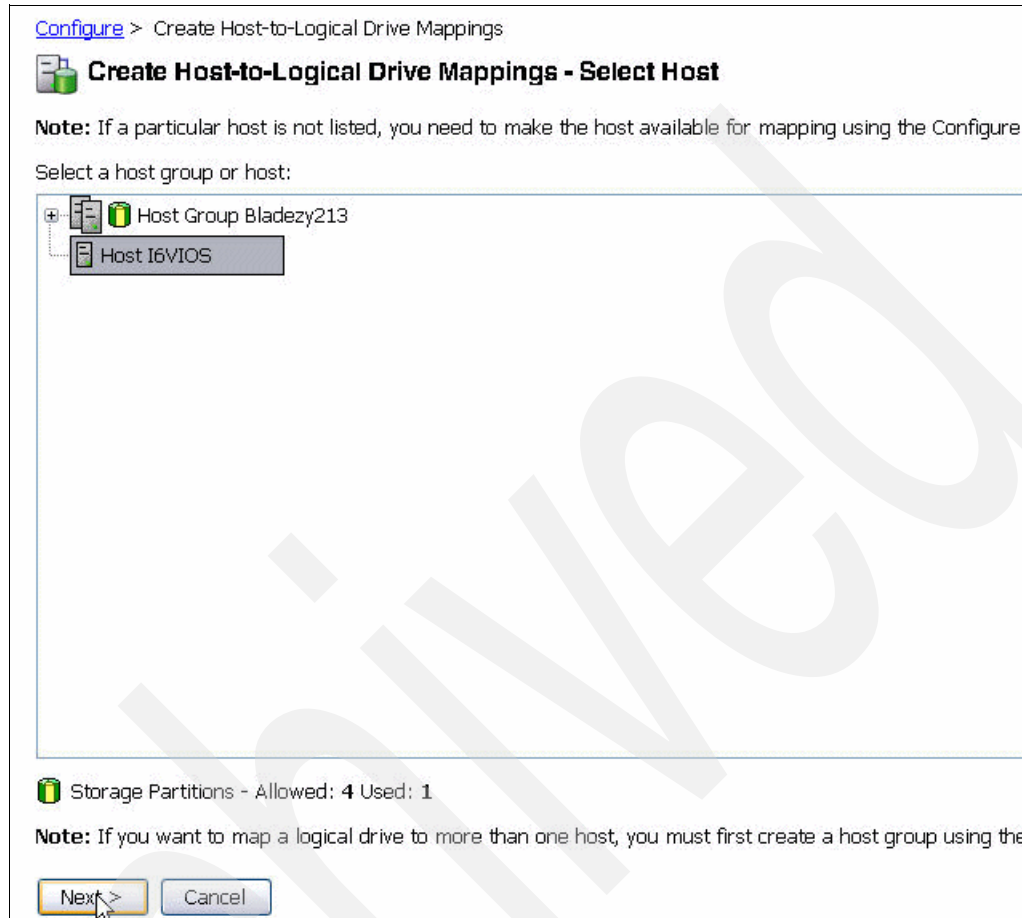

Figure 7-42 Select host name for logical drive mapping
2. In the wizard window Select Host we select the host name for the VIOS that we created and click **Next**, as shown in Figure 7-42.